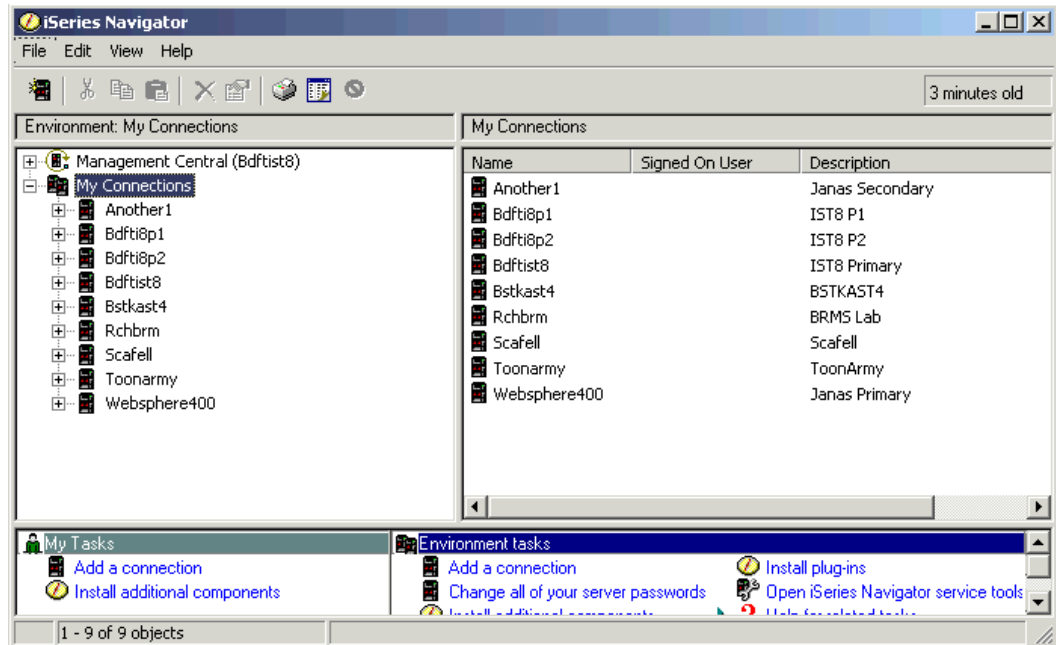

Figure 18-6 System i Navigator initial panel
1. Start System i Navigator. Figure 18-6 shows the initial panel.